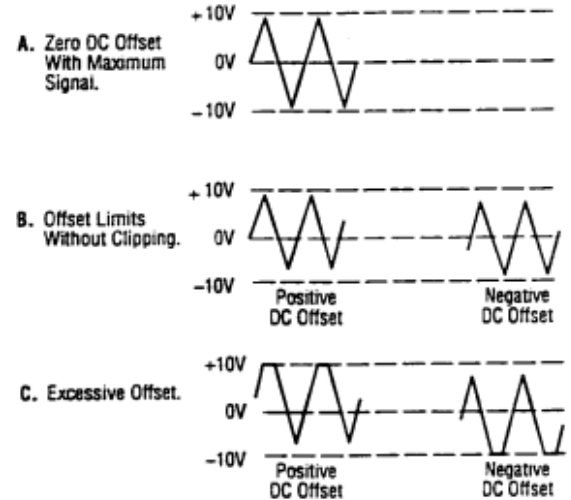

Figure 3. Use of DC OFFSET Control
7. A superimposed DC component can be added to the output signal by engaging the **DC OFFSET** switch (12) to enable operation of the **DC OFFSET** control (5). Rotation of this control adds a positive or negative DC component to the output signal. The DC component introduced is independent of the **OUTPUT LEVEL** control and can be varied by ± 10 volts open circuited or ± 5 volts into 50Ω . The DC Offset does not affect the **TTL/CMOS** output jack. The effect of DC OFFSET is shown in Fig. 3.
6. Remember that the output signal swing of the generator is limited to ± 10 volts open circuited or ± 5 volts into 50Ω , and applies to the combined peak-to-peak signal and DC offset. Clipping occurs slightly above these levels. Fig. 3 illustrates the various operating conditions encountered when using the DC offset. If the desired output signal is large or if a large DC offset is required, an oscilloscope should be used to make sure that the desired signal is obtained without undesirable clipping.